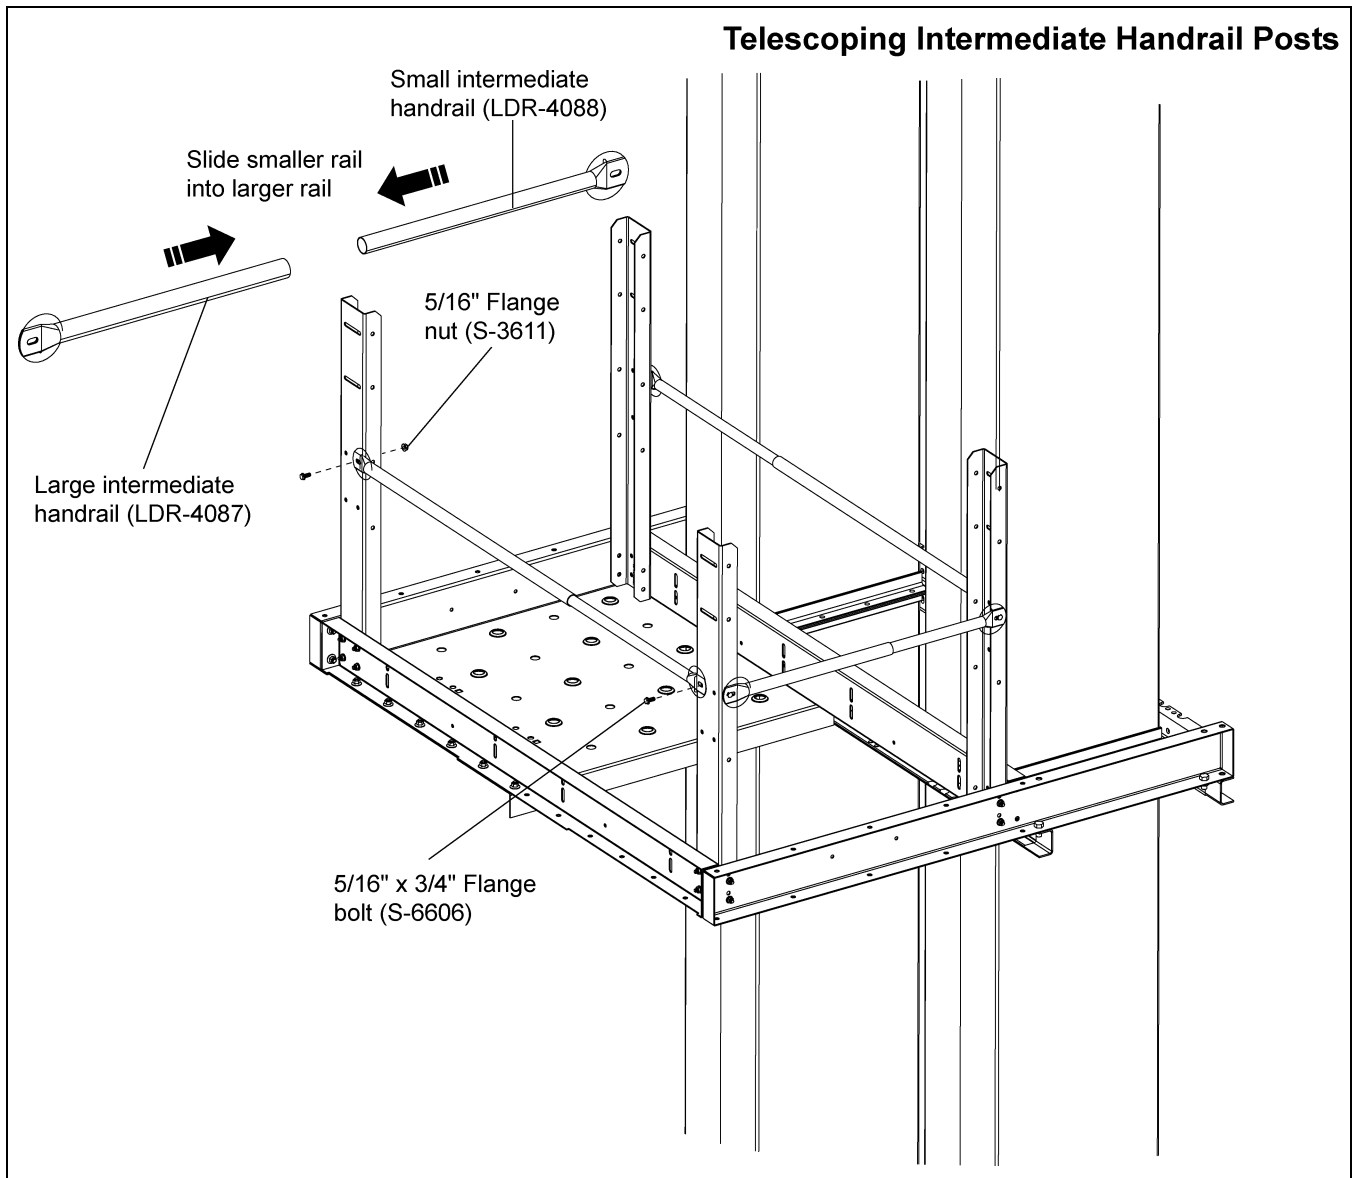

Figure 7J
6. After cutting the two (2) large and two (2) small intermediate handrails, slide them to the correct length and install them to the handrail posts on the short sides of the platform using 5/16" x 3/4" flanged hex bolts. (See Figure 7J.)